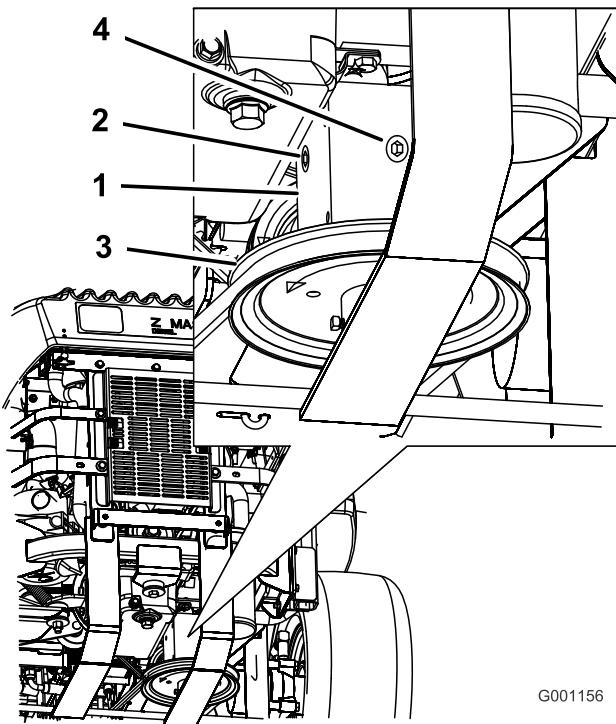

Figure 53
4. Remove the side or rear plug on the gear box. (Figure 53).